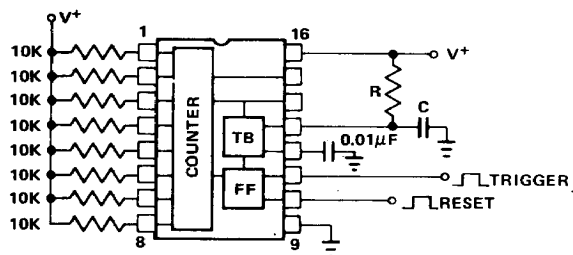

FIGURE 2: Generalized Test Circuit
**TEST CONDITIONS:** See Figure 2,  $V^+ = 5V$ ,  $T_A = 25^\circ C$ ,  $R = 10k\Omega$ ,  $C = 0.1\mu F$ , unless otherwise noted.